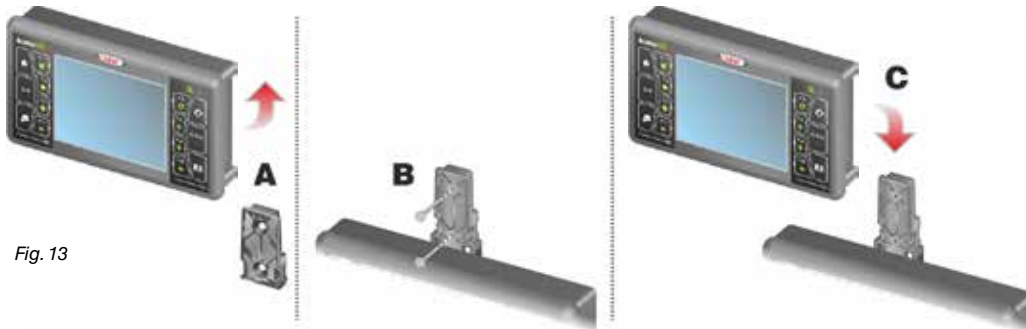

Fig. 13
The bracket must be slid out of the monitor seat (A, Fig. 13) and fixed using the supplied screws (B).